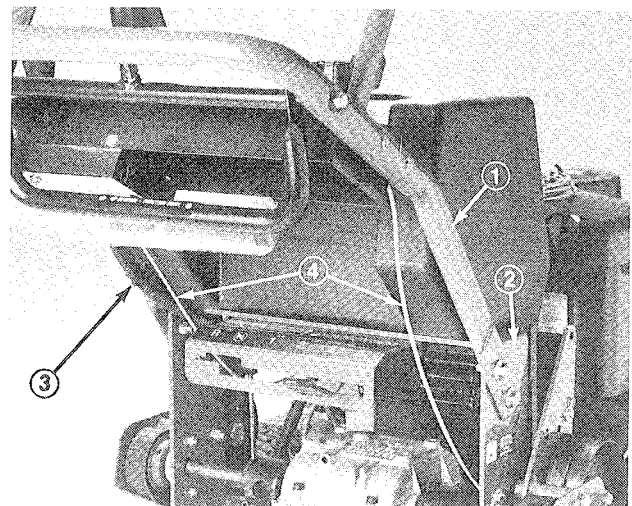

Figure 4
1. Align upper handle mounting holes with desired mounting holes in frame (upper or lower set of holes) and secure each side with (2) 3/8 - 16 x 1" lg. flange capscrews and flange nuts (Fig. 4). Torque capscrews to 23-27 ft.-lbs. Route cables and wire harness inside of frame (Fig. 4).